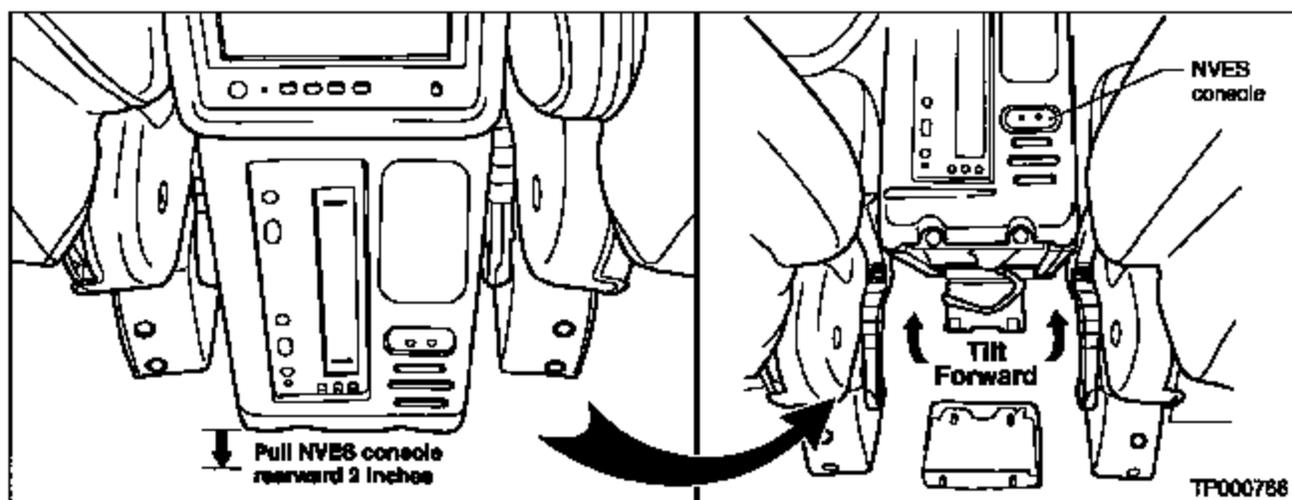

Figure 4
- D. Pull the console rearward 2 inches so it slides out of the front mounting bracket (see Figure 4).